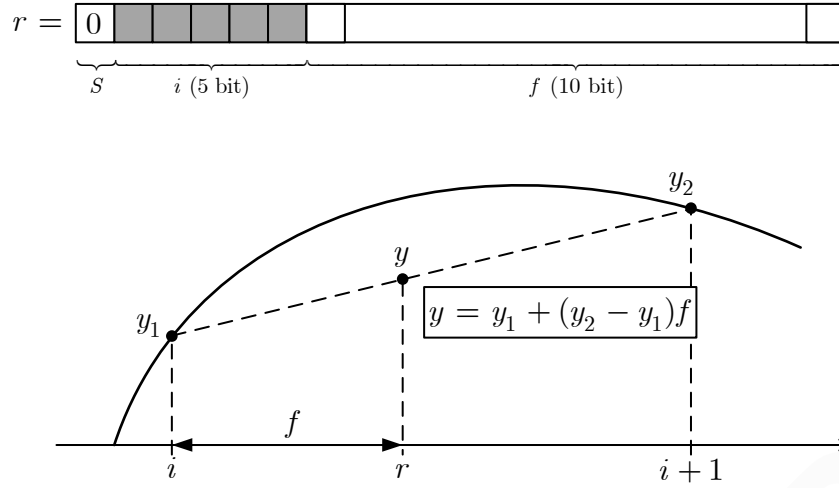

Figure 5: Look-up table interpolation scheme.
8. **(L)** Improve the quality of the sinusoidal oscillator by using linear interpolation as shown in Figure 5. Use the remaining 10 bit from the ramp r to form the remainder (or fraction) f , and represent it in Q_{15} format. Read two consecutive values $y_1 = \text{LUT}(i)$, $y_2 = \text{LUT}(i+1)$ and then compute the sinusoidal interpolated value as $y = y_1 + (y_2 - y_1)f$ in Q_{15} format.